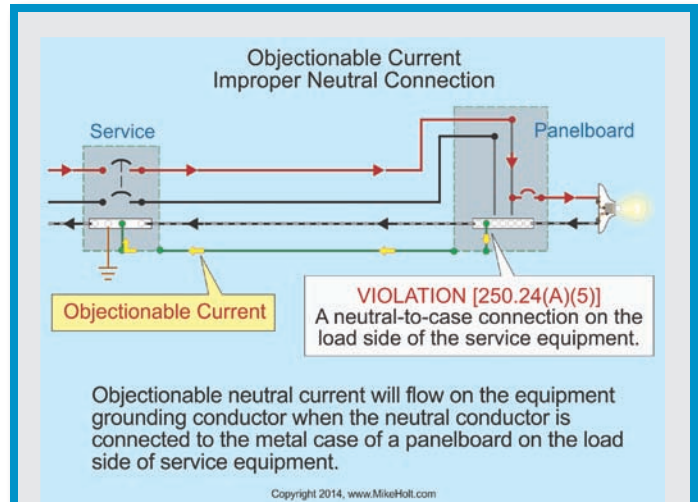

Figure 250-24
**Panelboards.** Objectionable neutral current will flow on metal parts and the equipment grounding conductor when the neutral conductor is connected to the metal case of a panelboard on the load side of service equipment. Figure 250-24